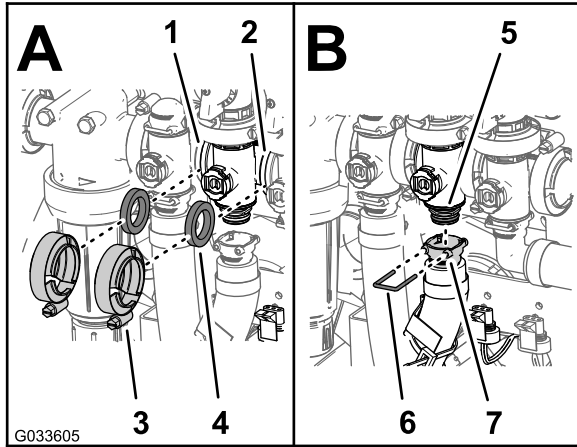

Figure 125
- Assemble the agitation bypass valve, gasket, and agitation-valve manifold with a flange clamp and tighten by hand (Figure 125).